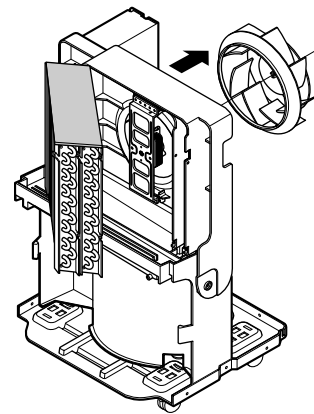

Figure 14
3. Lift the H/E and turn the H/E around 45 degree clockwise carefully. (See Figure 14)